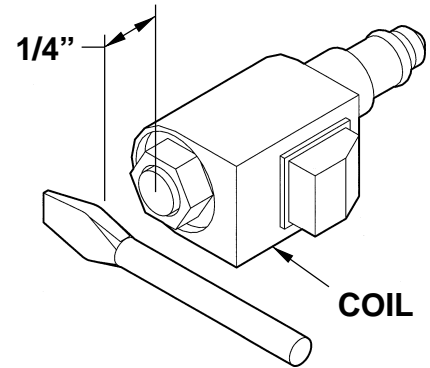

FIG. 1
1. Check Solenoid Valves for electrical shorts by holding a screwdriver approximately 1/4" from the top nut of the Solenoid. **(See FIG. 1)**. The solenoid should not draw the screwdriver to the nut with a magnetic force, unless the toggle switch is actuated. The Coil can be replaced by removing the Nut and Wires.